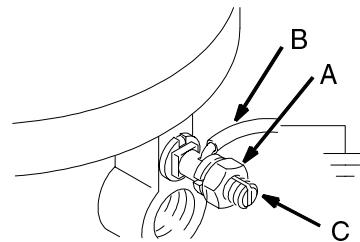

Fig. 3
1. *Pump:* Loosen the grounding lug locknut (A) and washer. Insert one end of a 12 ga (1.5 m²) minimum ground wire (B) into the slot in the lug (C). Tighten the locknut securely. See Fig. 3. Connect the other end of the ground wire to a true earth ground. Order a Grounding Clamp, P/N 103538, and a Grounding Wire, P/N 208950, (25 feet (7.6 m) long, 12 ga.).